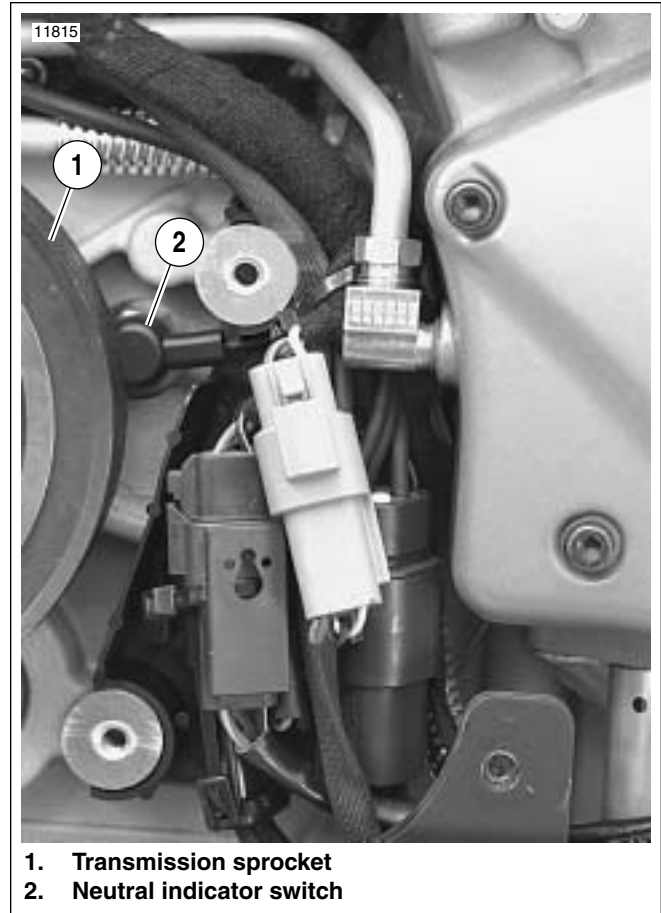

Figure 7-71. Neutral Indicator Switch Location
See Figure 7-71. The neutral indicator switch (2) is threaded into the transmission portion of the right crankcase half. It is immediately forward of the transmission sprocket (1). The sprocket cover must be removed to test the switch.
2. See Figure 7-71. Disconnect wire lead from neutral indicator switch (2).